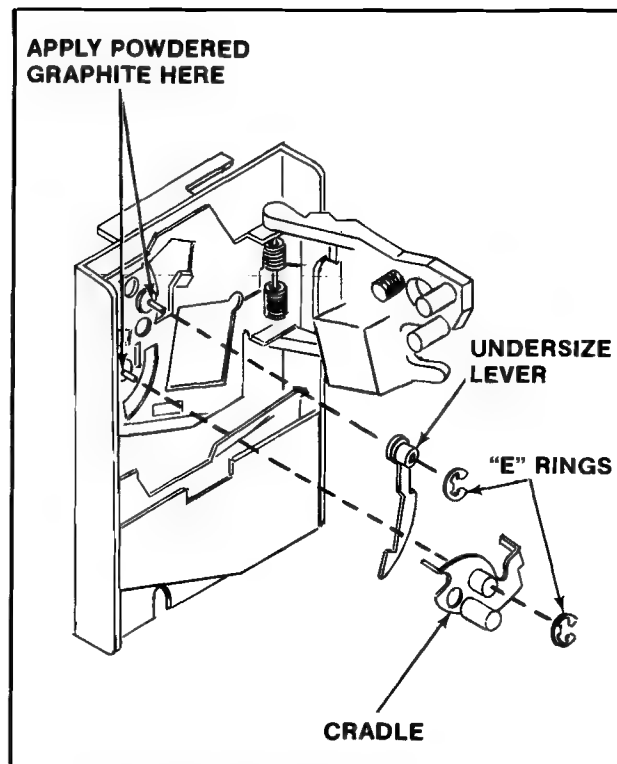

Figure 29 Lubricating the metal coin acceptor
- Use **ONLY** powdered graphite and put it **ONLY** on the moving parts of the coin acceptor. These parts are called out in Figure 29.